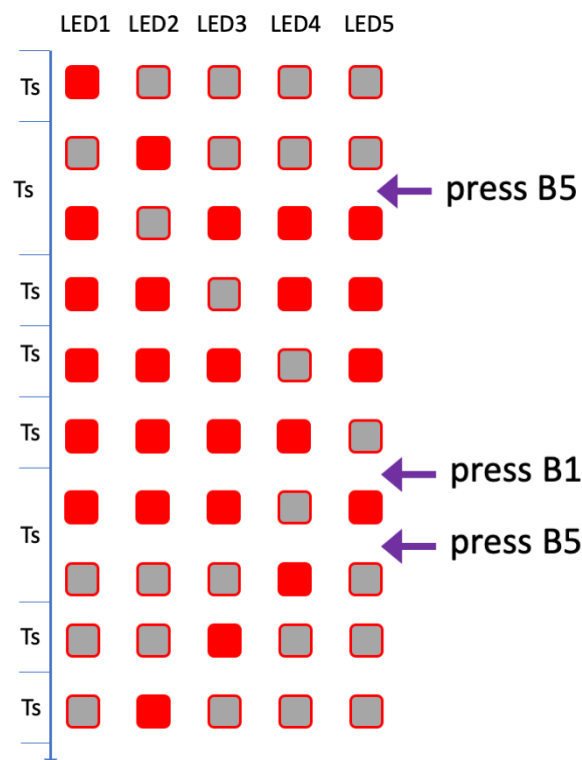

Figure 4: Invert and Reverse the Moving LED Pattern
1. Pressing button B5 causes the LEDs to invert, so that all the LEDs are lit except the one that was previously lit. This is shown in Figure 4.
2. This change should occur immediately (i.e. on the next cycle of the cyclic system). The unlit LED then moves when the remainder of the 1 sec interval (shown as T s in Figure 4) has elapsed.